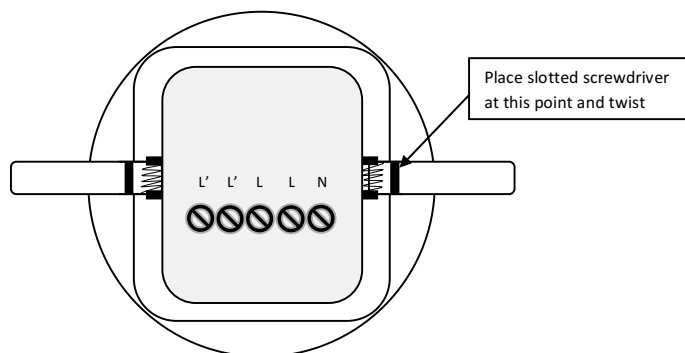

Fig 1
- Remove the front cover with the use of a slotted screwdriver (see Fig 1) to access the dip switches